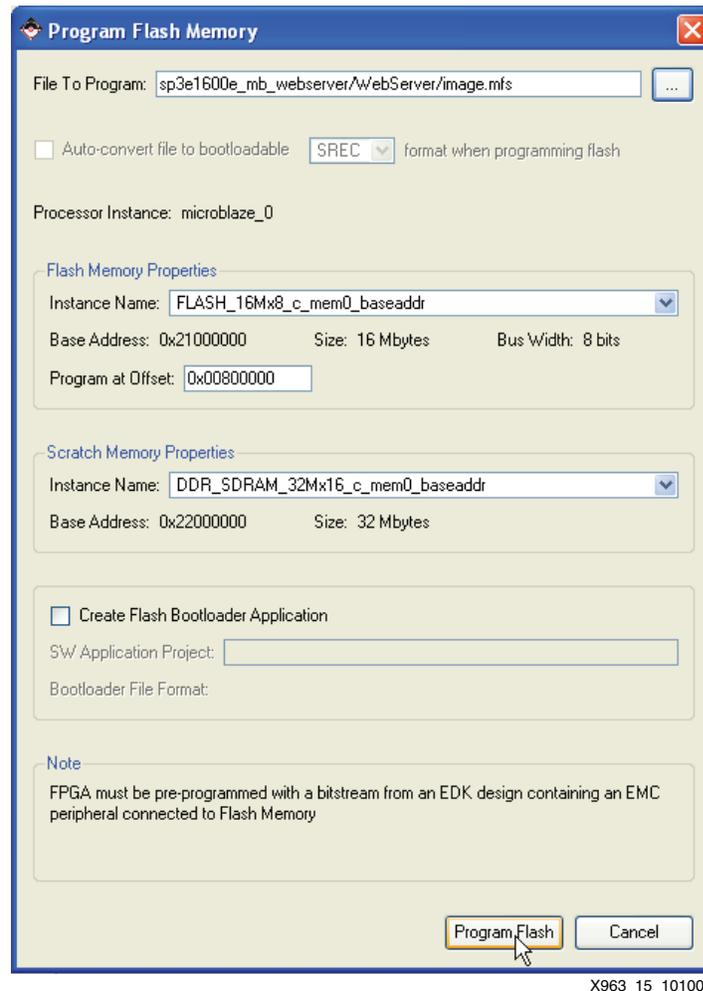

Figure 15: Program Flash Memory Dialog Box for the Web Server MFS Image
- In the Program Flash Memory dialog box, choose the file to program to be the MFS image file. Change the program offset to the desired value, making sure not to take up space used by the SREC file, and allowing enough room for the MCS file, which will be programmed down from `0x00FFFFFF`. The program offset must also match the address specified to the bootloader in the `MFS_FLASH_LOC` parameter. The provided example files use an offset of `0x00800000`. This offset is the address the provided Web server bootloader is programmed to find the MFS image. The Program Flash Memory settings for the MFS image are shown in Figure 15.